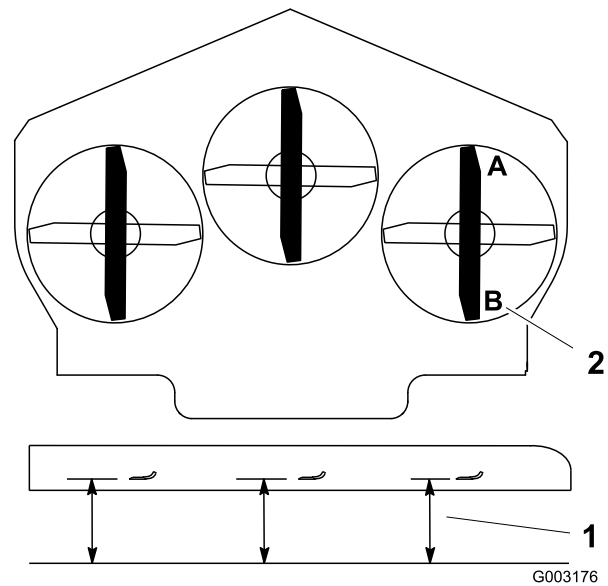

Figure 76
1. Position the right blade front-to-rear (Figure 76).
2. Measure the right blade at the **A** location, from a level surface to the cutting edge of the blade tip (Figure 76).
4. Measure the right blade at the **B** location, from a level surface to the cutting edge of the blade tip (Figure 76).
6. The mower blade should be 6 to 10 mm (1/4 to 3/8 inch) lower at position **A** than at position **B** (Figure 76). If it is not correct, proceed to the following steps.